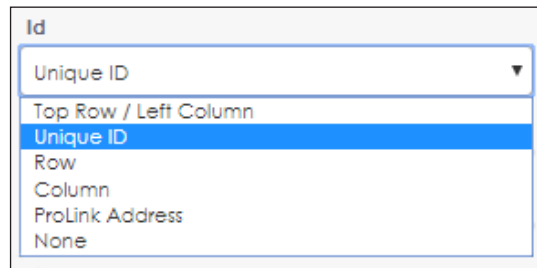

Figure 58: Module Identification
7. Choose the module identification method from the **Id** drop down list to make it easier to identify modules that need adjustment. Refer to **Figure 58**.